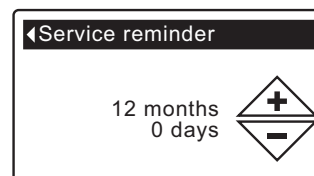

FIG. 63
7. Press the SELECT (O) button to display the Service reminder screen (See Figure 63).